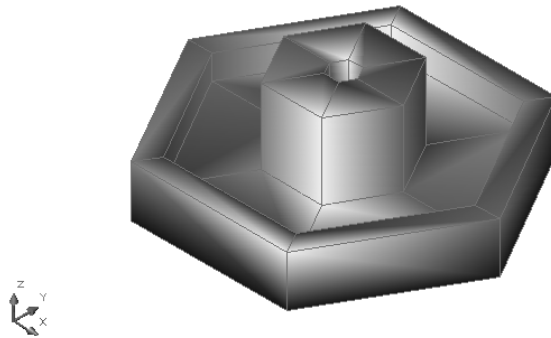

Figure 22-20: The model shaded with the Gouraud Shaded, Edges On option.
10. Save your drawing. It should look like Figure 22-20.